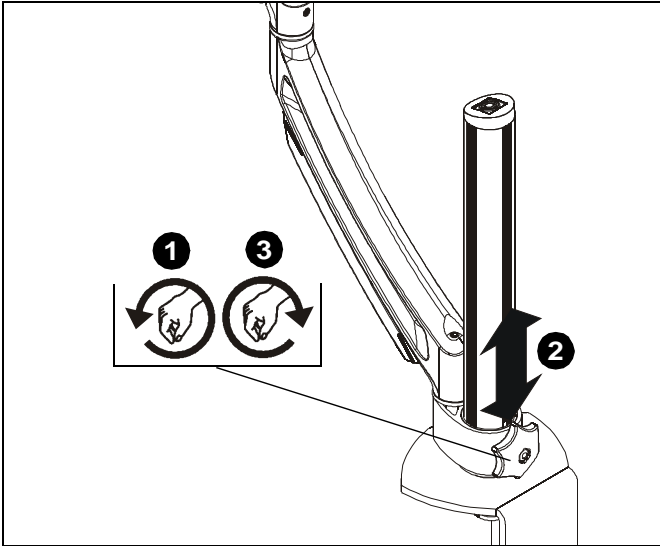

Figure 14
1. Loosen column adjustment knob. (See Figure 14)
2. Adjust height to desired level. (See Figure 14)
3. Tighten column adjustment knob. (See Figure 14)